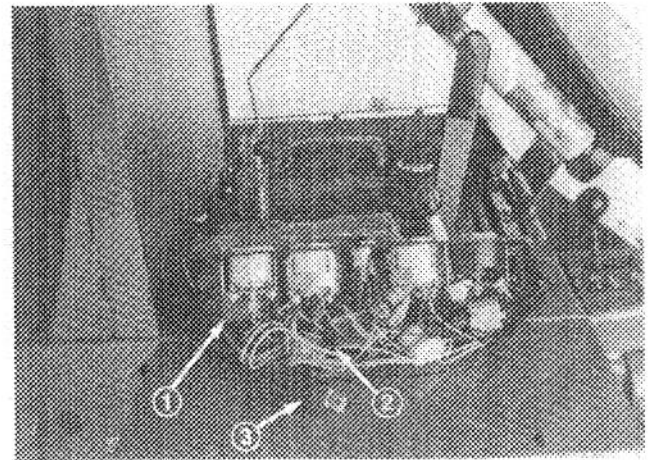

Figure 28
**Electrical System Fuses** (Fig. 28)—An engine temperature reset relay fuse—SFE 14 amp—is lo-